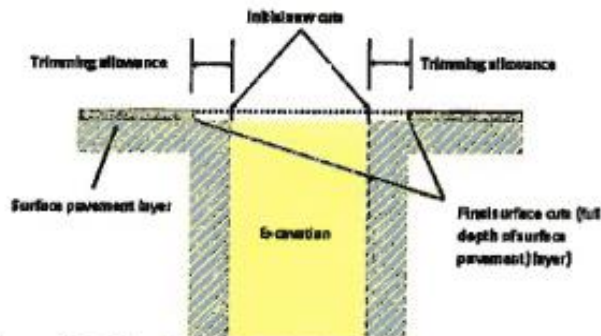

Figure D 1: Standard Trimming for Trench Cuts
- b) the separation distance from the original saw cut (the trimming allowance, refer Figure D 1) must be a minimum of 150mm, except for concrete Carriageways where a minimum of 300mm applies, but more may be required to maintain the integrity of the final Trench reinstatement;